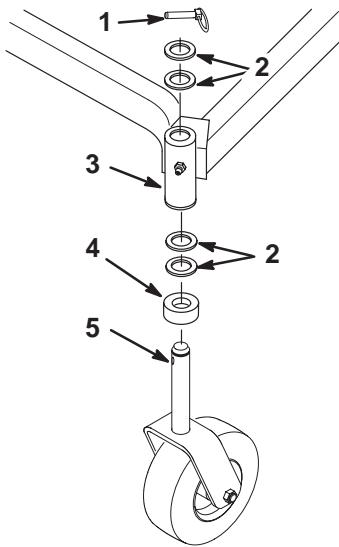

Figure 55
2. Remove the locking pin and spacer(s) from the top of the caster wheel fork (Fig. 55).
- Inspect the castor wheel fork for wear and replace if necessary (Fig. 55).
- Slide the castor wheel fork through the bushings in the mounting tube. Replace the spacer(s) onto the fork and secure with the retaining ring (Fig. 55).